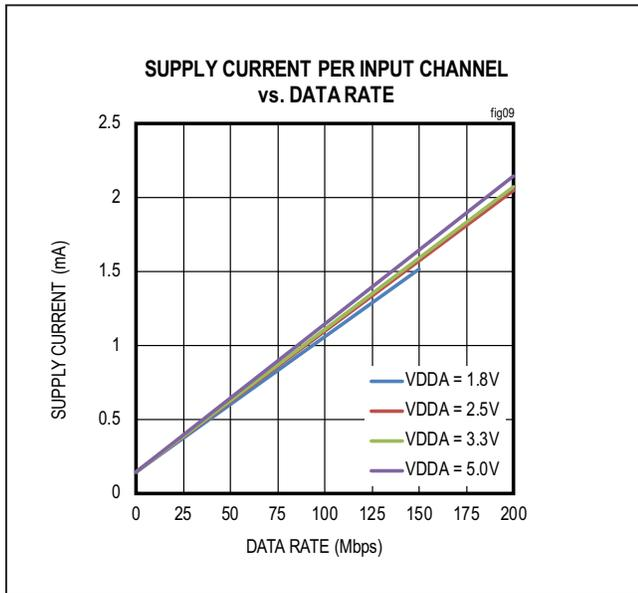
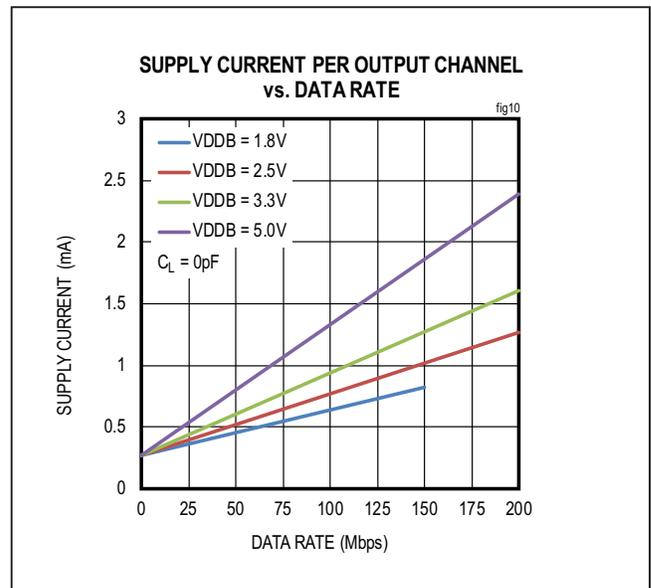

Figure 9. Supply Current Per Input Channel (Estimated)
Figure 10. Supply Current Per Output Channel (Estimated)
The required current for a given supply (V_{DDA} or V_{DDB}) can be estimated by summing the current required for each channel. The supply current for a channel depends on whether the channel is an input or an output, the channel's data rate, and the capacitive or resistive load if it is an output. The typical current for an input or output at any data rate can be estimated from the graphs in Figure 9 and Figure 10. Please note the data in Figure 9 and Figure 10 are extrapolated from the supply current measurements in a typical operating condition.
The total current for a single channel is the sum of the “no load” current (shown in Figure 9 and Figure 10) which is a function of Voltage and Data Rate, and the “load current,” which depends on the type of load. Current into a capacitive load is a function of the load capacitance, the switching frequency, and the supply voltage.
- Channel 1 is an input channel operating at 2.5V and 20Mbps, consuming 0.33mA, estimated from Figure 9.
- Channel 2 and 3 are input channels operating at 2.5V with DC signal, consuming 0.14mA, estimated from Figure 9.
- Channel 4 is an output channel operating at 2.5V and 100Mbps, consuming 0.77mA, estimated from Figure 10.
- Channel 1 is an output channel operating at 3.3V and 20Mbps, consuming 0.40mA, estimated from Figure 10.
- Channel 2 and 3 are output channels operating at 3.3V with DC signal, consuming 0.27mA, estimated from Figure 10.
- Channel 4 is an input channel operating at 3.3V and 100Mbps, consuming 1.11mA, estimated from Figure 9.